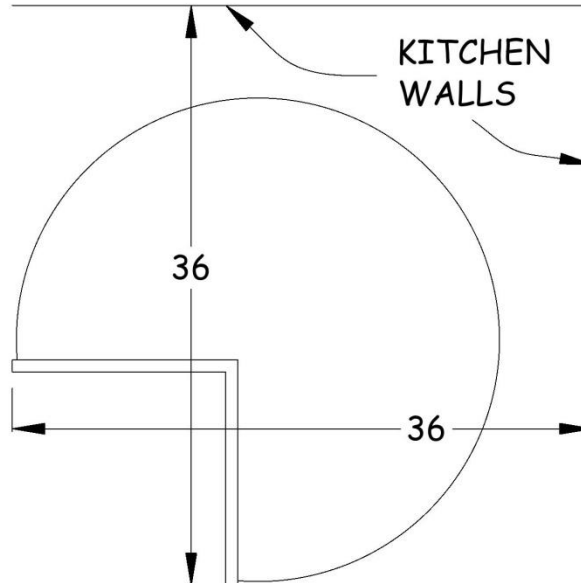

Figure 17-1. Corner Cabinet Installation
2. Set the corner carousel unit in place with the faces 36" from each wall as shown in Figure 17-1.